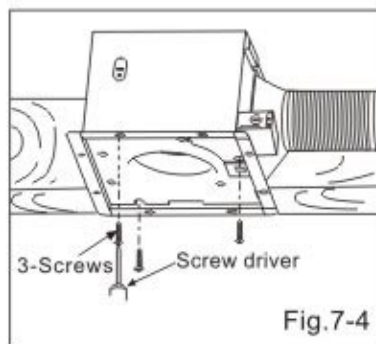

Fig.7-4
7. Secure the blower. (Fig.7-4)